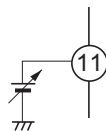

Figure 3
- Power save mode is provided for saving I_{CC} less than about 10 mA as figure 3.